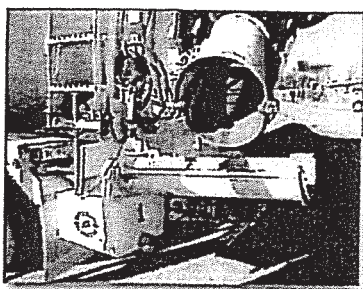

Figure 7. Chute washout box
A chute washout box is mounted on the back of the ready mixed truck. If the truck has three chutes, the following procedure is used to perform the washout from the top down: (1) after the pour is completed, the driver attaches the extension chute to the washout box, (2) the driver then rotates the main chute over the extension chute (Fig. 7) and washes down the hopper first then the main chute, (3) finally the driver washes down the flop down chute and last the extension chute hanging on the box. All washwater and solids are captured in the box.